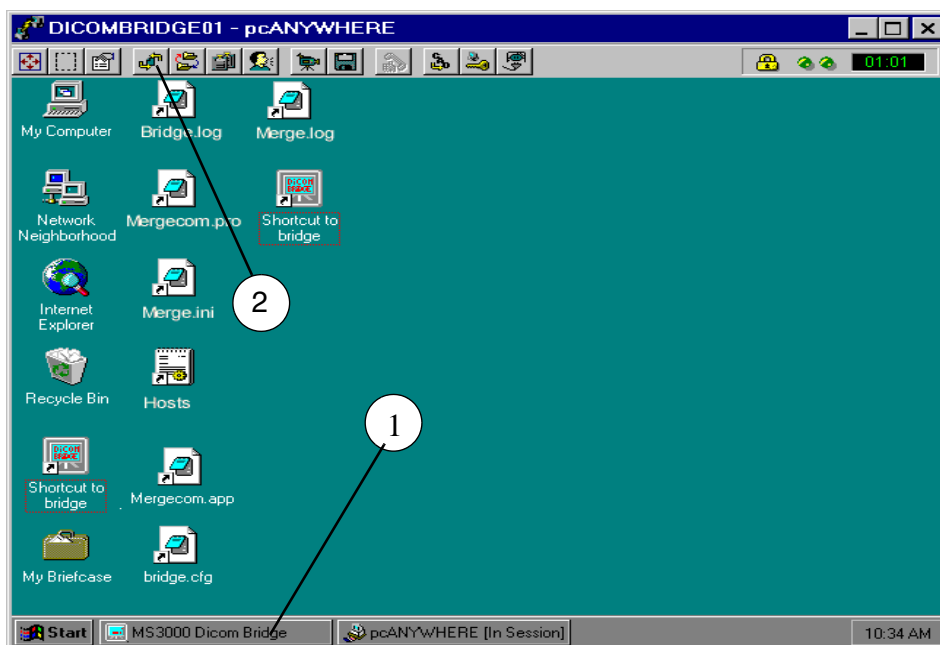

Fig. 6
- Select the task bar of the "MS3000 Dicom Bridge" DICOM window (1/ Fig. 6) and terminate the program.